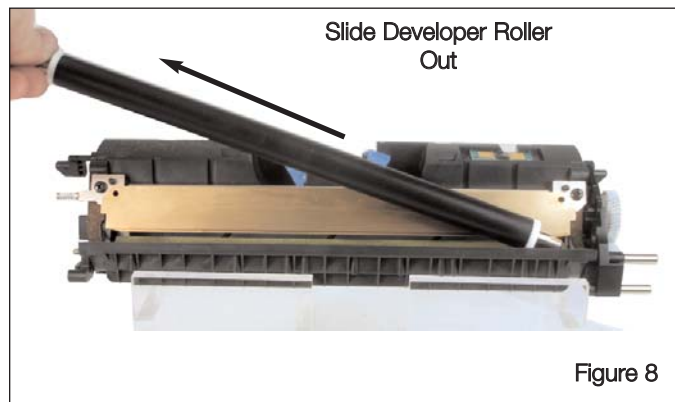

Figure 8
10. Remove the Developer Roller by lifting the Contact side of the Developer Roller and sliding out the Drive side from the cartridge. See Figure 8.